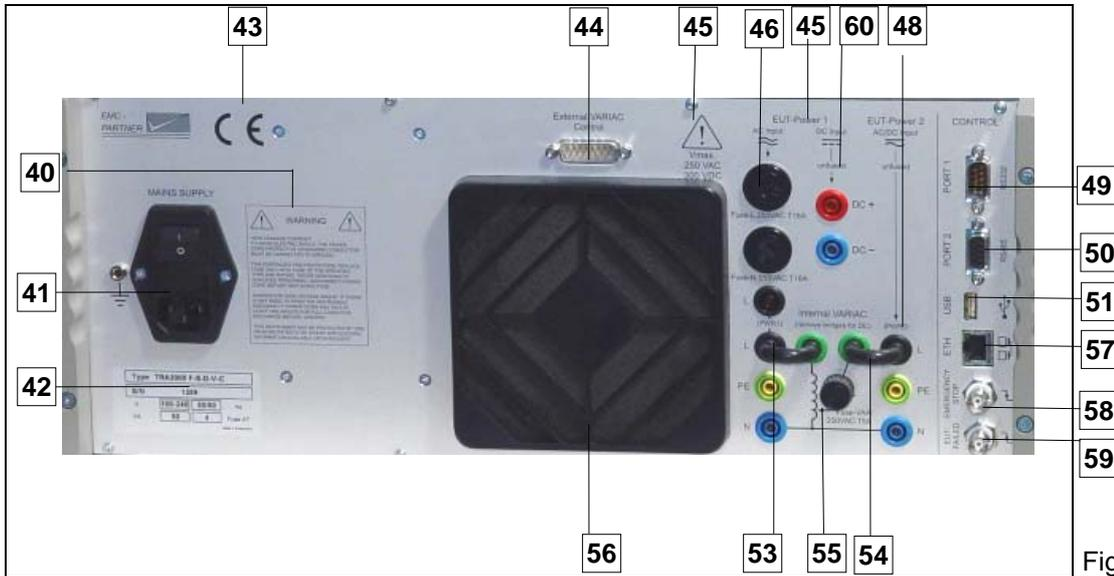

Fig. 4.2
With this button the EUT power is turned on from the variac. When the power of the EUT is feed from input (48) (see Figure 4.2 ) e.g. internal or external variac, this status will be indicated by the LED (25) .